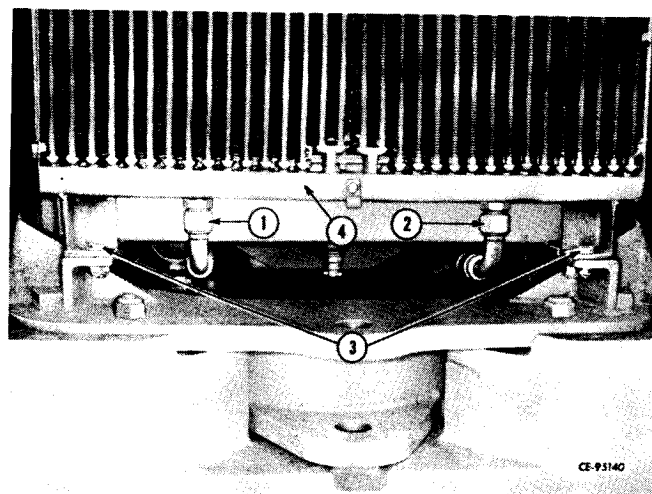

Figure 2-42
Disconnect transmission oil cooler lines (1, 2, Fig. 2-42) from the bottom of the oil cooler (4). Insert plastic plugs into both the oil cooler and disconnected lines (1, 2) to keep fluid from dripping.